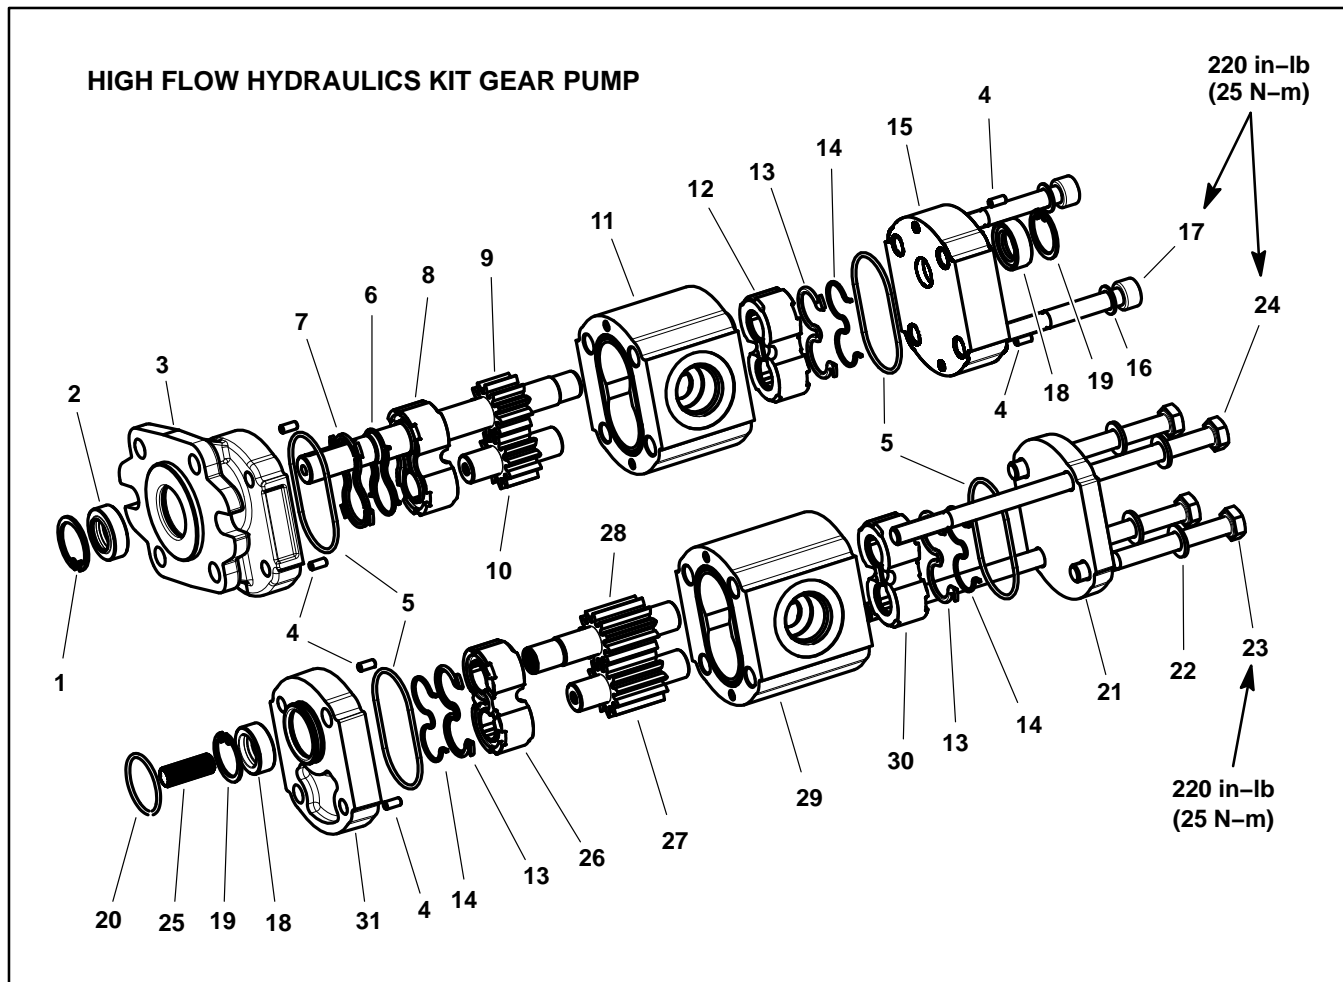

Figure 33
The gear pump assembly used on Workman HDX Auto vehicles equipped with High Flow Hydraulics is shown in Figure 33. When servicing this gear pump, follow the procedure for Gear Pump Service (Vehicles with Standard Hydraulics) in this section and the following:
1. Use Figure 33 as a guide when servicing High Flow Hydraulics gear pump.